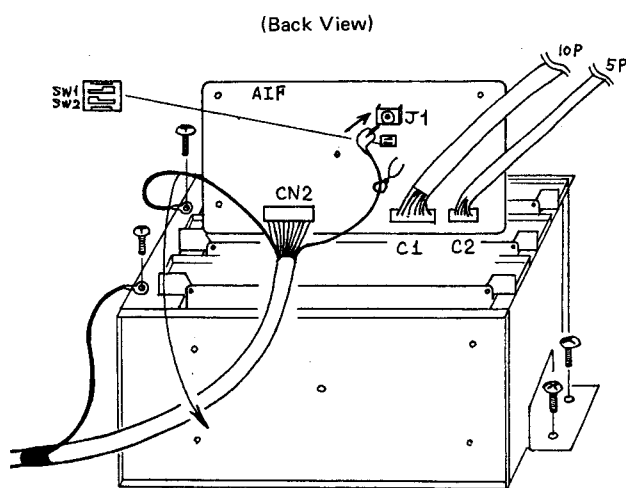

Fig. 3
4. The control panel must be in the "UP" (service) position. Remove the digital circuit board cage retaining screws(4), (see figure 3).
Note: Please check the position of switches SW1 and SW2, (see figure 3).
9. Connect one end of the 10 pin socket to connector C1 of the AIF board as shown in figure 3 (leave the other end free, This will be connected in step #15).
10. Connect one end of the 5 pin socket to connector C2 of the AIF board as shown in figure 3 (leave the other end free, this will be connected in step #17).
11. Connect the ground wires to the top of the digital circuit board cage securing screws, as shown in figure 3.
12. Now, install the AIF circuit board as shown in figure 3.